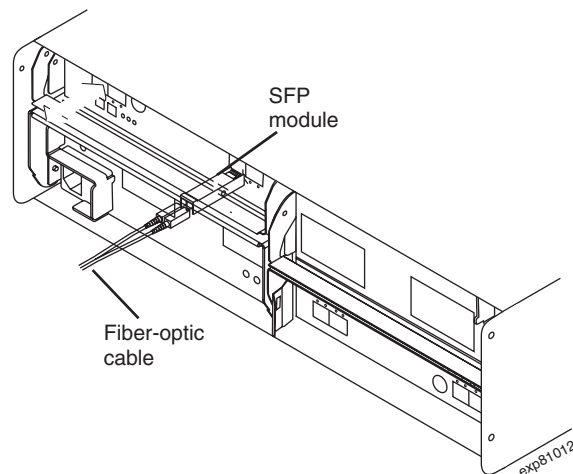

Figure 34. Installing an SFP module and connecting an LC-LC cable to the EXP420
3. Install an SFP module in the SFP port on the back of the EXP420; then, connect the other end of the LC-LC cable into the SFP module, as shown in Figure 34.
Note: Figure 34 is for illustrative purposes only. The actual SFP module on your particular DS4000 storage expansion enclosure might appear differently than the one shown in the figure.